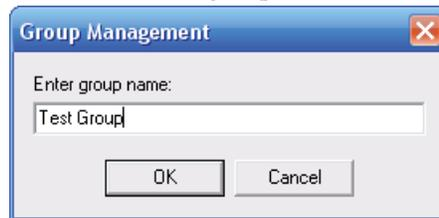

Figure 13: Group Management Box
1. Select the **Instrument Group** tab and select **Add Group** from the Groups menu. This opens the Group Management box (Figure 13).
2. Select **Rename Group** from the Groups menu. This opens the Group Management box (Figure 13).